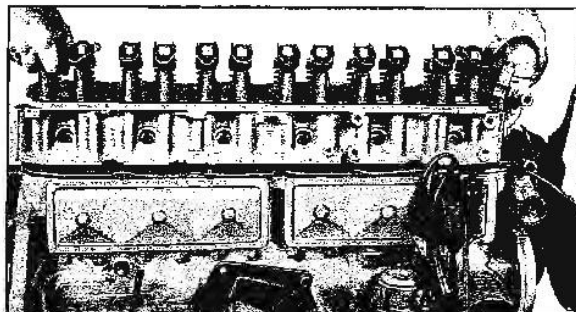

Fig. 6-23 Installing Cylinder Head
2. Carefully guide cylinder head into place over dowel pins and gasket (Fig. 6-23).